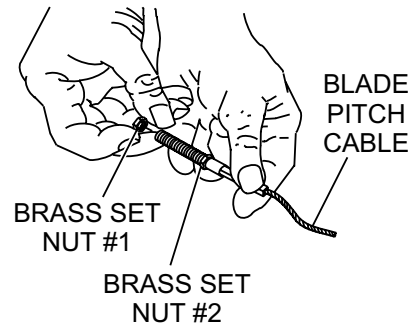

Figure 12. Blade Pitch Cable
- Remove brass set nut #1 from the blade pitch cable end as shown in (Figure 12).
- Thread brass set nut #2 (Figure 12) towards the cable as far as possible.